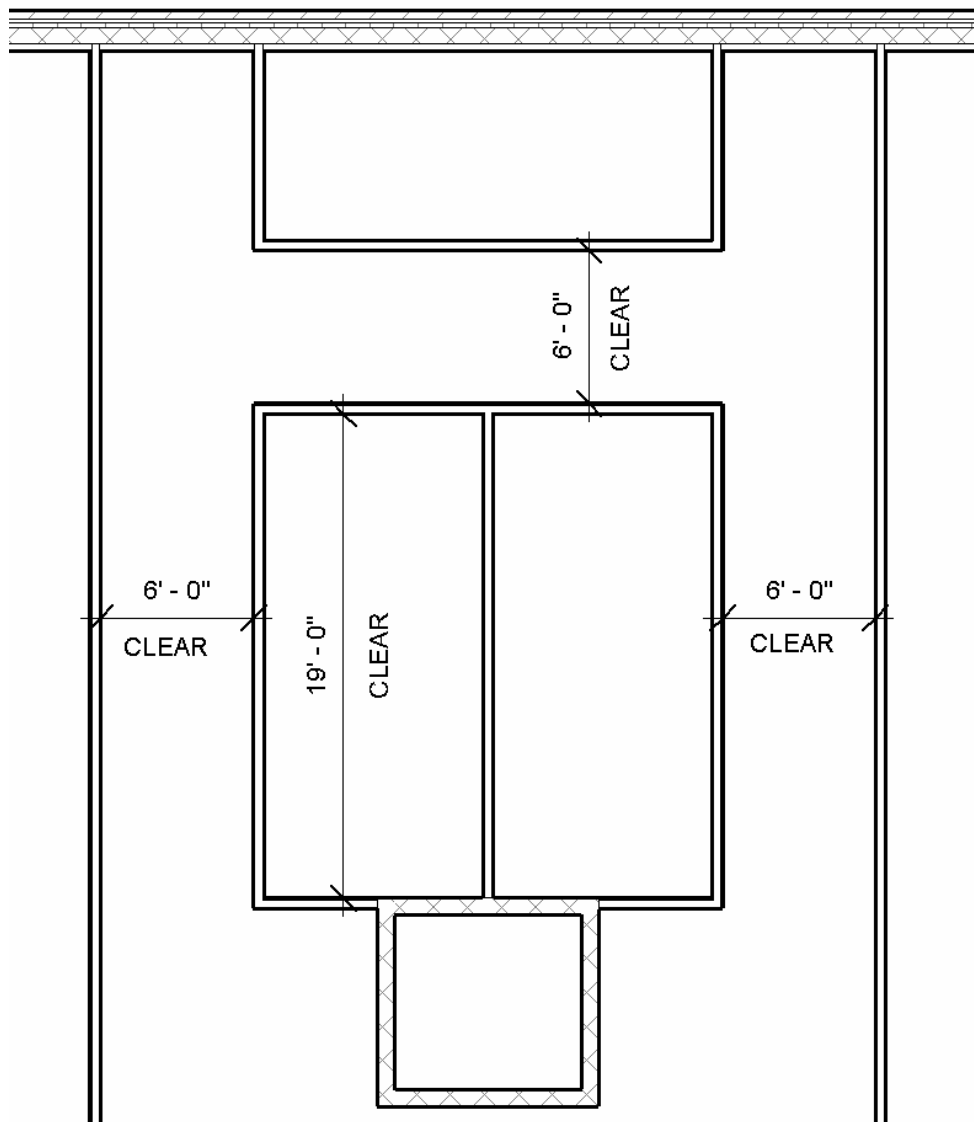

Figure 3-3.11 Remaining interior walls
28. Draw the additional walls shown in Figure 3-3.11. Make sure to position the walls per the dimensions shown. Use the *Measure* tool to verify accuracy. Also, modify the *Loc Line* as required.